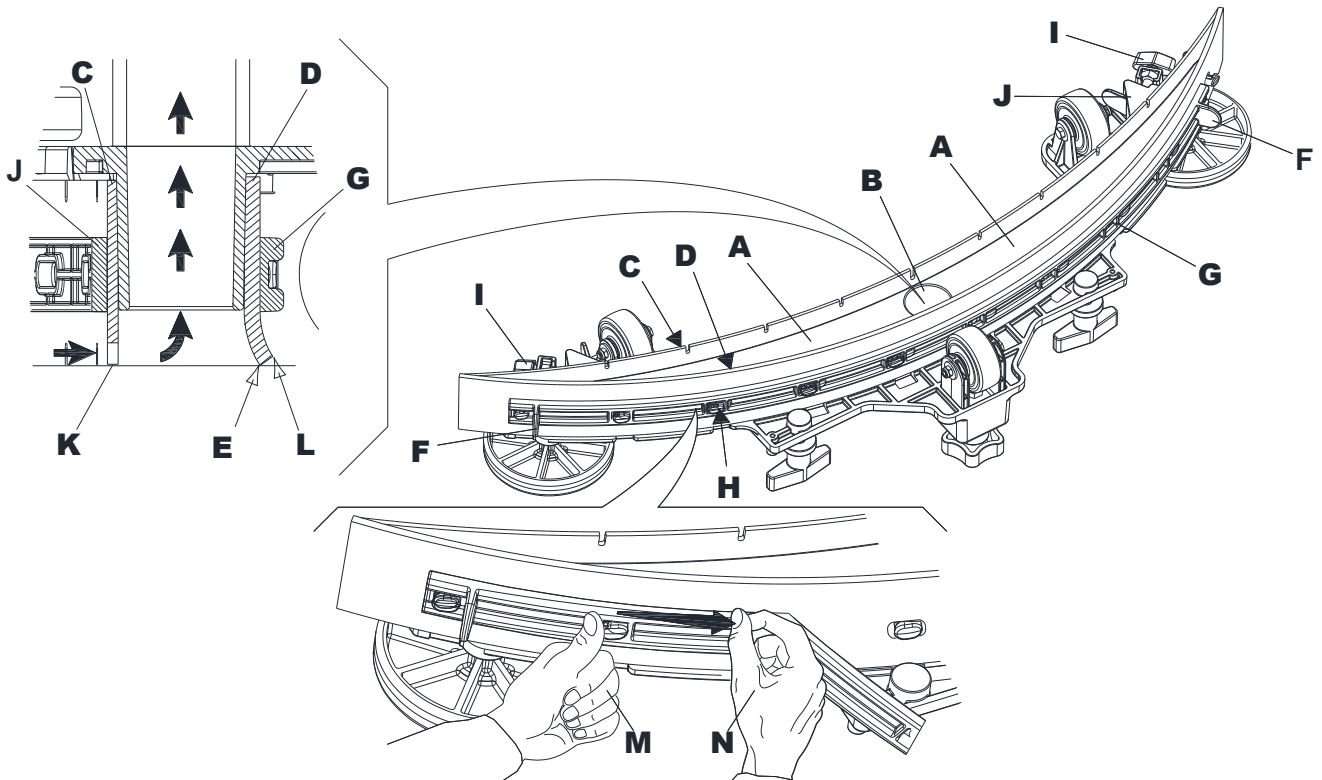

Figure 14
3. Loosen the handwheels (13) and remove the squeegee (11).
4. Wash and clean the squeegee. In particular, clean the compartments (A, Fig. 14) and the vacuum hole (B). Check the condition of the front (C) and rear (D) blades, ensuring there are no cuts and tears; if necessary, replace them as shown below.
2. Check the condition of the front (C, Fig. 14) and rear (D) blades, ensuring there are no cuts and tears; if necessary, replace them as shown below. Check that the front corner (E) of the rear blade is not worn; otherwise, turn the blade to replace the worn corner with one of the three remaining intact corners. If the other corners are worn too, replace the blade according to the following procedure:
- Using the tab (F), release and remove the elastic strap (G) from the fasteners (H), then turn or replace the rear blade (D).
- Install the blade in the reverse order of removal. Fasten the elastic strap (G) to the fasteners (H) starting from one side. To make the fastening procedure easier, secure the fasteners one at a time, by locking the strap before the fastener with one hand (M) and pulling it with the other hand (N).
- Unscrew the handwheels (I) and remove the strap (J), then turn or replace the front blade (C).
3. Install the squeegee (11) and screw down the handwheels (13).
- Check that the lip (K) of the front blade (C) and the lip (L) of the rear blade (D) are resting as shown in the figure.
- Use the knob (24) to make adjustments.